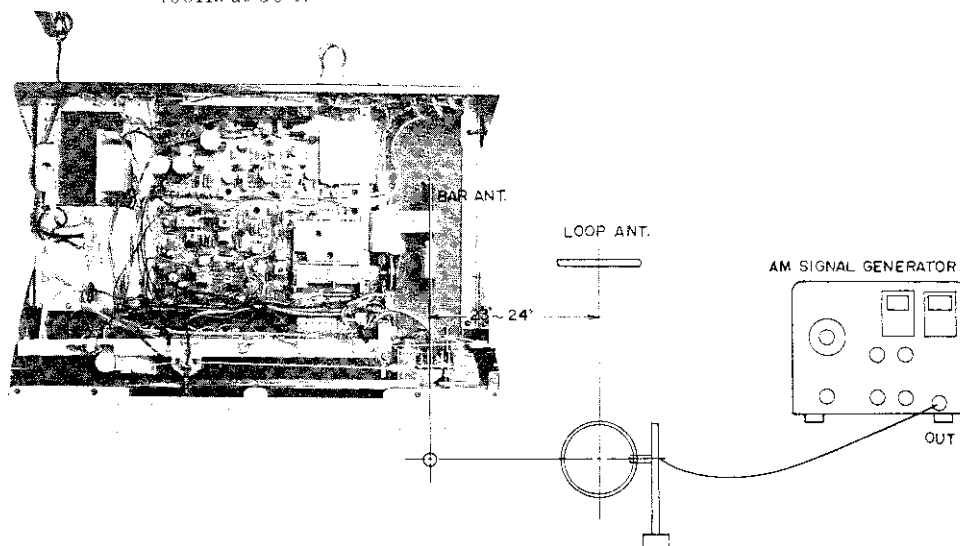

Fig. 7
- a) Signal Generator : Fashion loop of several turns of wire (or Loop Antenna) and connect generator across loop as illustrated in Fig. 7. Then set generator to 1700kHz from 455kHz with demodulated 400Hz at 30%.